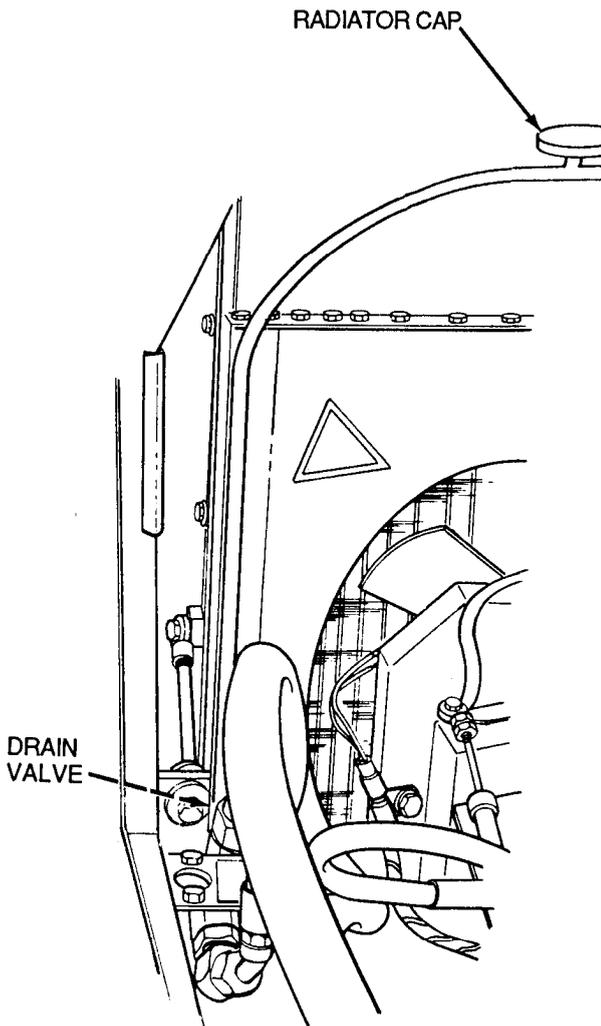

Figure 3-15
1. Remove radiator cap and drain cooling system by opening drain valve on bottom tank of radiator and removing plug in side of engine coolant inlet (Figure 3-15). Drain radiator into a suitable container. Radiator holds 28 qt (26.50 L).